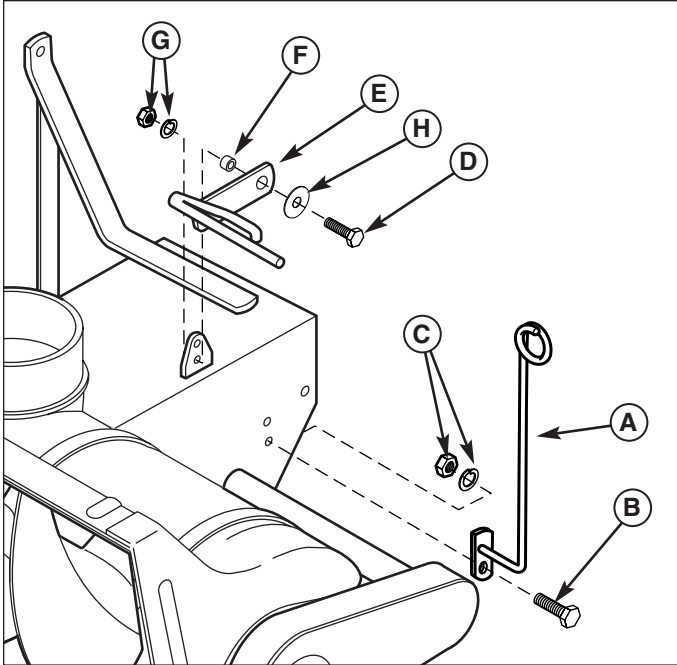

Figure 14. Deflector Control Cable Support Arm
1. Assemble the deflector control cable support arm (A, Figure 14) to the left side of the snowthrower using one 5/16-18 x 1" capscrew (B), lockwasher, and nut (C) using the holes shown.
2. If not already done, install the lift assist lever (E) using a 3/8-16 x 1-1/4 capscrew (D), large washer (H), spacer (F), lockwasher & nut (G).